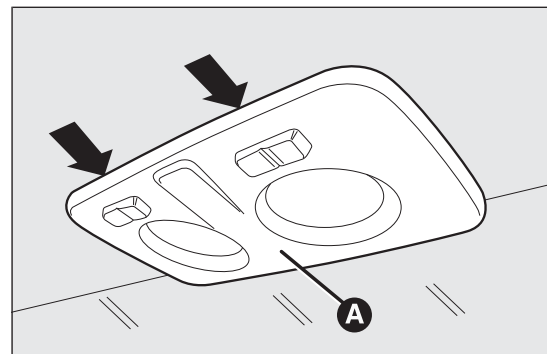
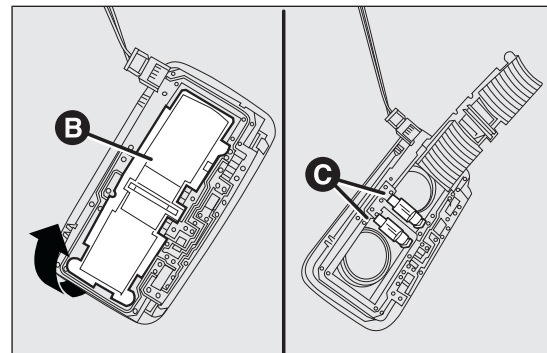

fig. 150
fig. 151
- ☐ operate in the points shown by the arrows and remove ceiling light A fig. 150;
- ☐ open the protective lid B fig. 151;
- ☐ re-close the lid B fig. 151 and secure light A fig. 150 into its housing locking it properly.